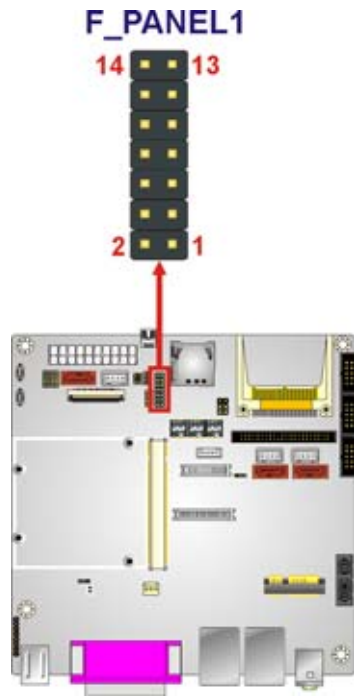

Figure 4-7: Front Panel Connector Pinout Locations
- CN Location:** See Figure 4-7